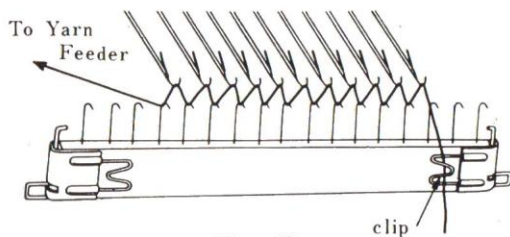

Fig. 10
- 2) Carefully unhook the comb from the pegs by turning the securing-levers A of the cast-on comb and let the cast-on comb hang in the loops of yarn. (See Fig.10)
- 3) Turn the loose end of the yarn round the cast-on comb clip to keep it out of the way and to secure the first stitch. (See Fig. 10)